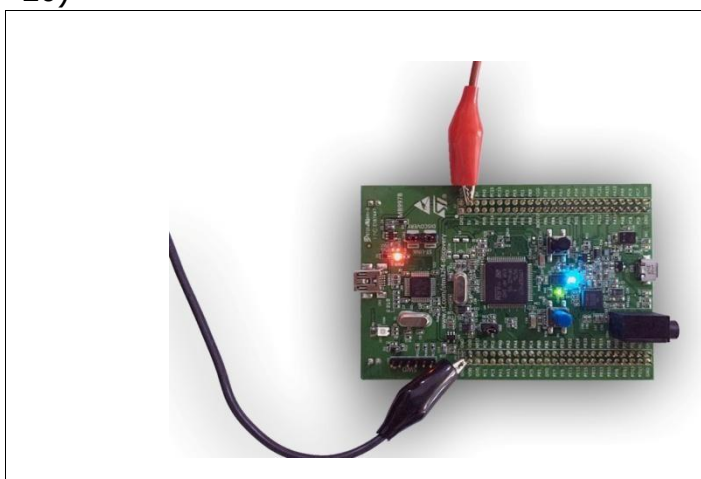

Figure 16: Connecting the Power Cables to the Circuit (Step 1)
1. The Power Cable is connected to the electronic circuit supply. Red Cable (+), Black cable (-). (Figure 16)